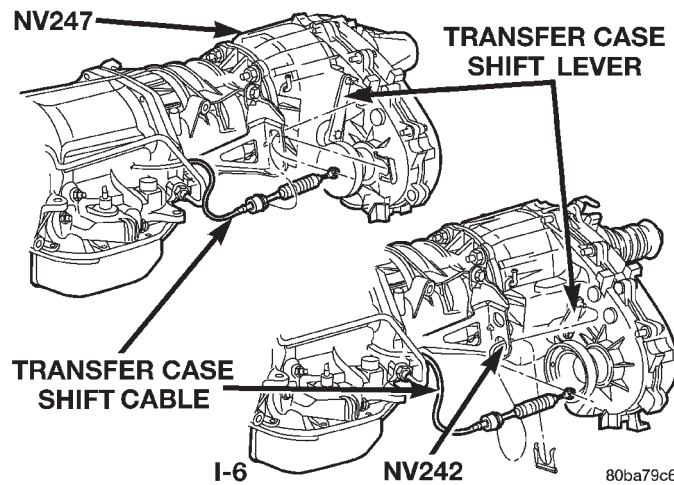

Fig. 17 Transfer Case Shift Cable
(19) Disconnect transfer case shift cable from the transfer case shift lever (Fig. 17).
(20) Remove the clip securing the transfer case shift cable into the cable support bracket.
(21) Disconnect transmission fluid cooler lines at transmission fittings and clips.
(22) Support rear of engine with safety stand or jack.
(23) Raise transmission slightly with service jack to relieve load on crossmember and supports.